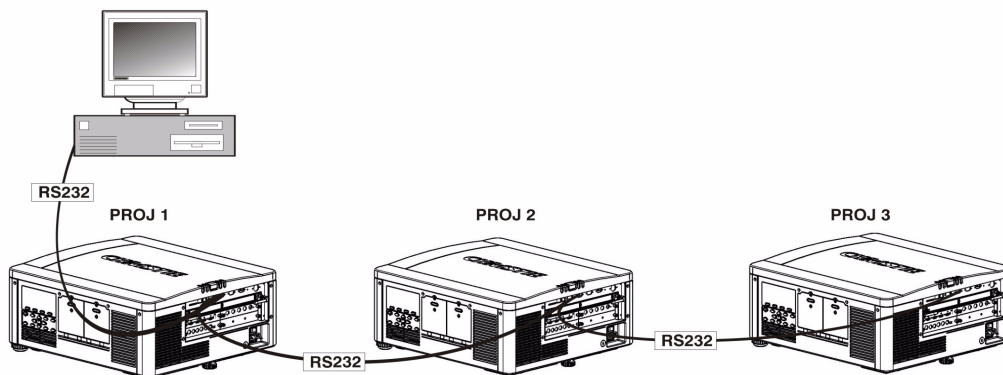

FIGURE 2-21 - RS232 NETWORK
3. Continue this pattern of connection with all projectors in the network. **NOTE:** *The last projector in the network will only have a connection to the RS232 IN connector, see Figure 2-21 - RS232 Network.*